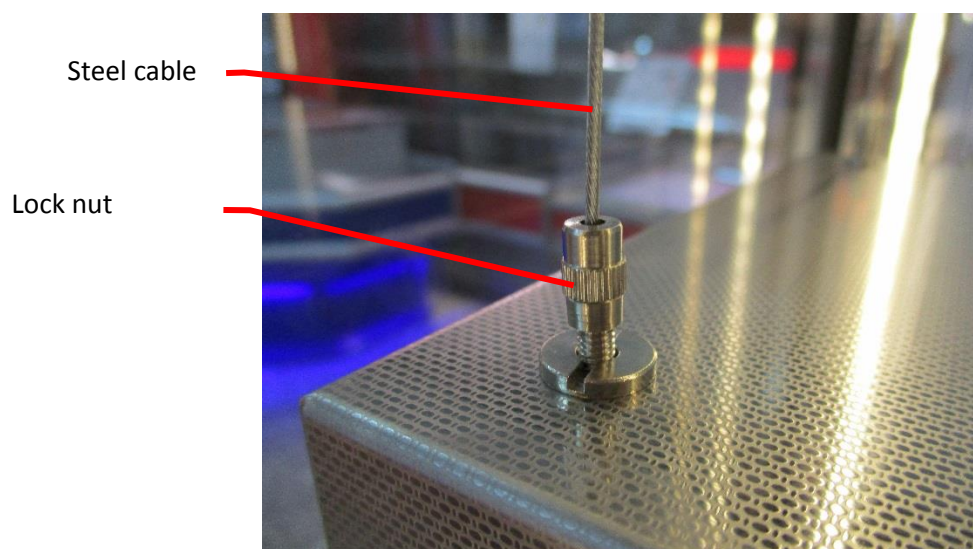

Figure 2.
- 2) Afterwards it is necessary to put the cables through the locks loosening and pressing the lock nuts (*Figure 2.*). At this stage it is possible to initially set the hanging height of the shelf, blocking the cables at the suitable length.